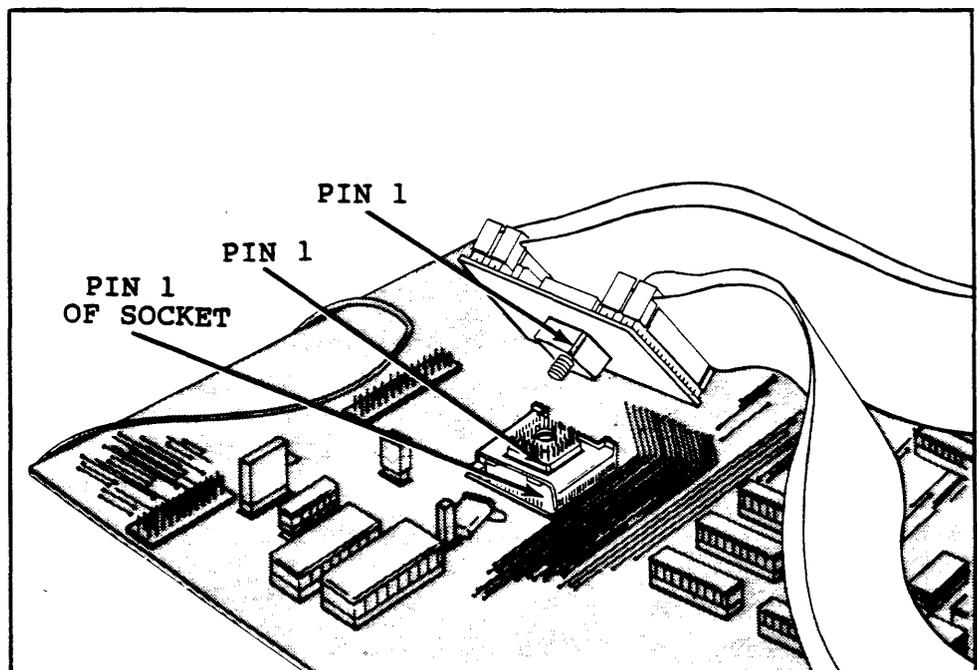

Figure 2-6.
4. With target system power off, remove the target system micro-processor from its socket and plug in the Probe Tip as shown in Figure 2-6.